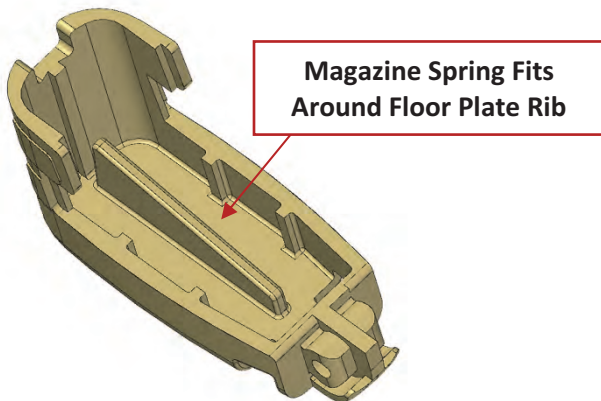

Figure 16. Floor Plate Rib
1. If the optional step of removing the floor plate was performed, reinstall the follower into the magwell, followed by the magazine spring. Be sure the magazine spring is installed around the rib in the floor plate and with the tallest section of the spring at the rear of the follower, as shown in *Figures 16 & 17*.